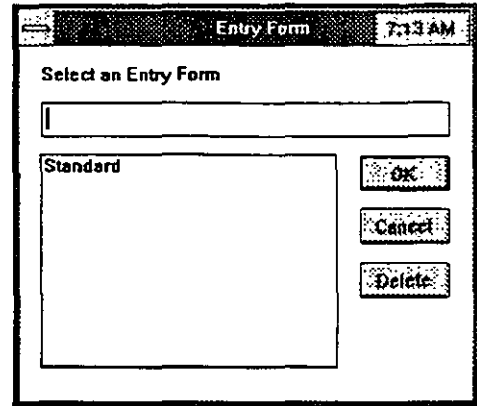

Figure 10-4
3. Select the form name which you wish to use as your entry form from the list displayed in the dialogue box as shown in Figure 10-4.